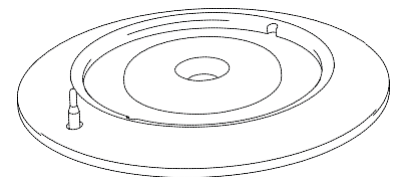
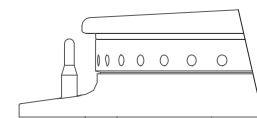

Figure 9 – Aluminium Burner Bezel
Figure 10 – Flame Sensor
- Clean any spillage from aluminium bezel (Fig 9), ensuring all food and cleaning material debris is removed. Dry aluminium bezel thoroughly, taking care not to damage flame sensor. (Fig 10)
Important - Do not allow any spillage or cleaning material debris to enter the large hole in the aluminium burner bezel. (Fig 9)